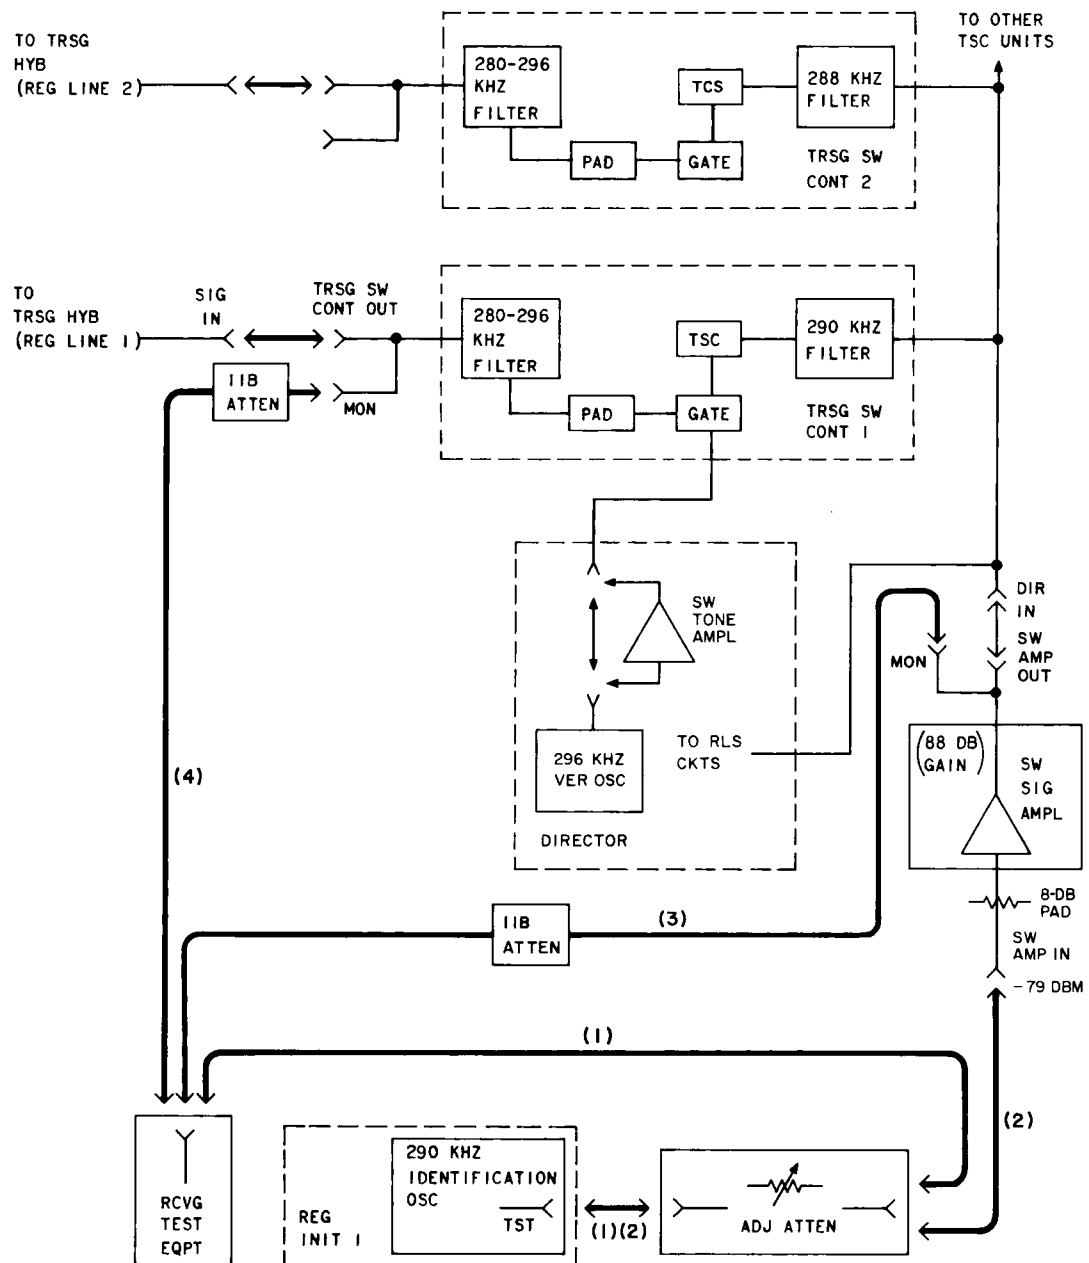
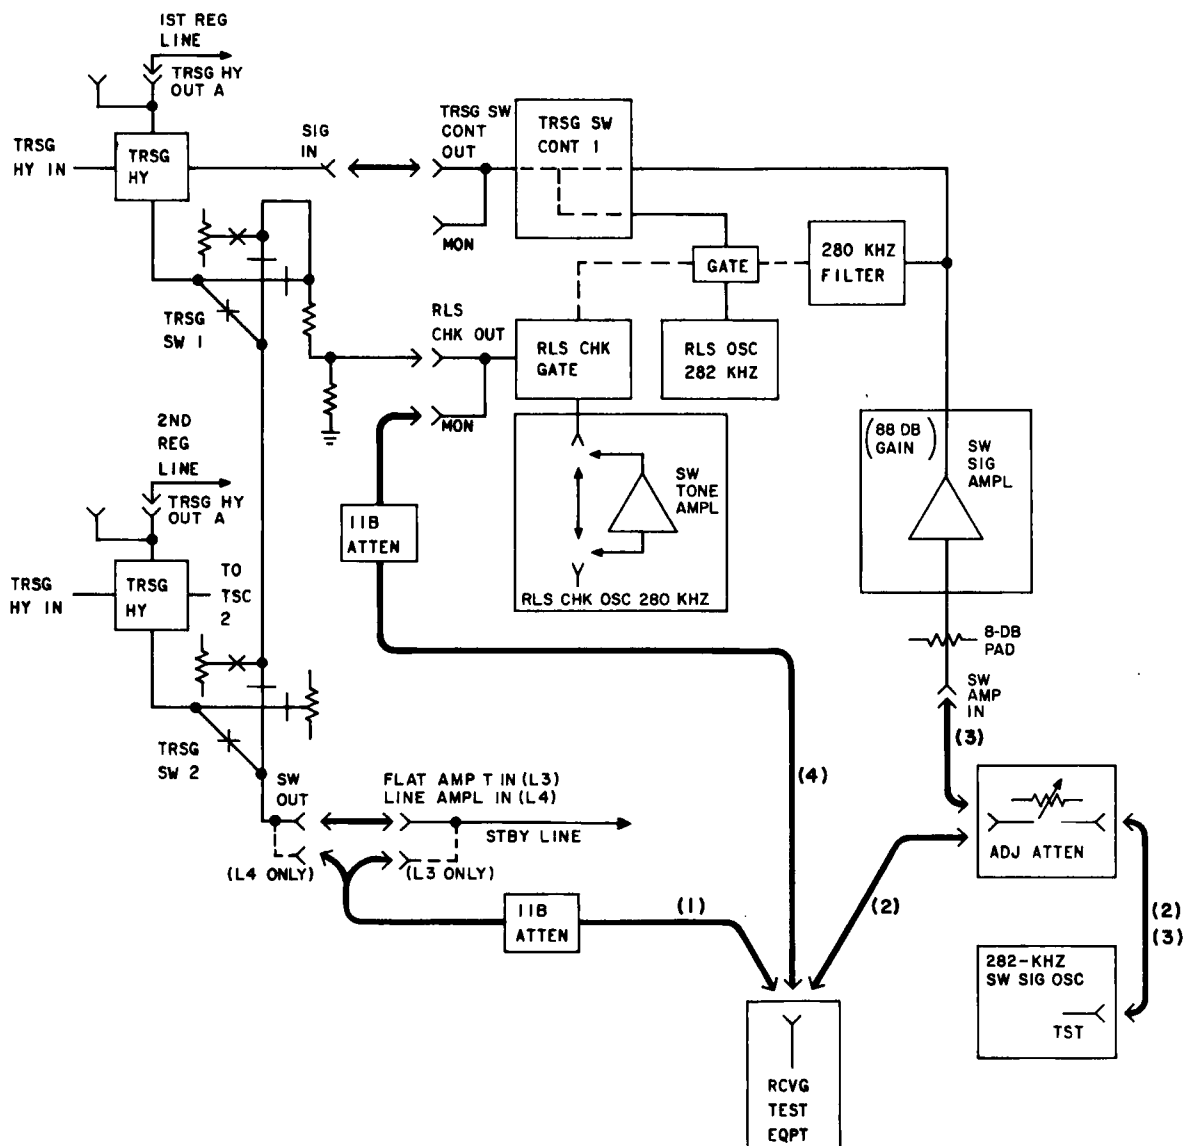

Fig. 1—Patching Arrangement to Observe the Switch Initiation at the Transmit Terminal
Fig. 2—Switch Control Circuits and Test Connections
The switch tone amplifiers shown in Fig. 1 and Fig. 2 are provided as standard equipment with new production L3 and L4 systems and as options in existing L3 and L4 systems. The need for modifying existing systems is determined by measuring the level of the switching signals in accordance with Section 359-100-509.
At the regular initiator (REG INT 1), insert a patch cord and an adjustable attenuator between the 290-kHz oscillator TST jack and the RTE [patch (1), Fig. 1].
| 10   | At the jack strip in the switch control bay, input the 290-kHz signal (-79 dBm) into the SW AMP IN jack [patch (2), Fig. 1].                                                                                                                                                                                                                                                    |
| 11   | Insert a patch cord and an 11B attenuator from the SW AMP MON jack into the RTE [patch (3), Fig. 1].                                                                                                                                                                                                                                                                            |
| 21   | <p>At the jack strips in the control bay, insert a patch cord and an 11B attenuator from the TRSG SW CONT ( ) MON jack of the line under test into the RTE [patch (4), Fig. 1].</p>                                                                                                                                                                                                  |
| 24   | <p>At the line transmitting bay (protection line) or control connecting bay, connect the RTE, via the 11B attenuator, as follows [patch (1), Fig. 2]:</p> <ul style="list-style-type: none"><li>• L3: Multiple FLAT AMP IN jack</li><li>• L4: Multiple SW OUT jack.</li></ul>                                                                                          |
- 27 At the common switch control panel, insert a patch cord from the 282-kHz switch signal oscillator TST jack, via an adjustable attenuator, into an RTE [patch (2), Fig. 2].
- 30 At the jack strip in the switch control bay, insert the 282-kHz signal (-79 dBm) into the SW AMP IN jack [patch (3), Fig. 2].
- 32 At the (Group A) switch control bay, insert a patch cord and an 11B attenuator from the RLS CHK MON jack into the RTE [patch (4), Fig. 2].